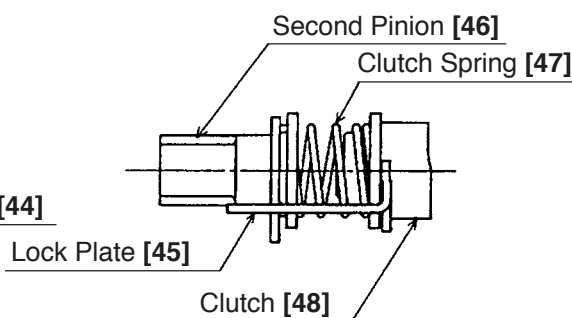

Fig. 14
- Pull out the Second Pinion **[46]**, Clutch Spring **[47]**, Clutch **[48]** and Lock Plate **[45]** (these parts are sandwiched by means of the Lock Plate **[45]** as a unit as shown in Fig. 14) from the end of the Second Shaft **[49]**. Turn the Reciprocating Bearing **[50]** so that the Piston **[39]** is moved to its maximum upper position (Inner Cover **[41]** side). The arm of the Reciprocating Bearing **[50]** can then be disconnected from the Piston Pin **[42]**, and the Second Shaft **[49]** and the components mounted on it can be removed from the Inner Cover **[41]** as a unit.